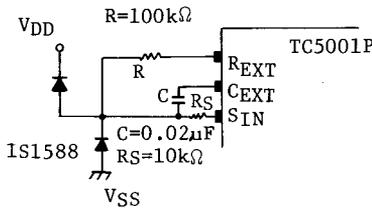
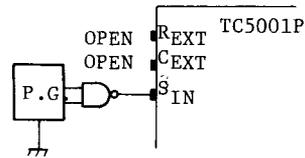

Fig. 1
Fig. 2
- (2) Arbitrary digit can be made real time output (completely static) by making SCAN signal DC.
- (3) The digit pulses in synchronism with SCAN signal for dynamic display appear at the digit output terminals (T1, T2, T3 and T4). The digit output terminals (T1, T2, T3 and T4) are used for the digit selection circuit and for arbitrary digit zero suppress.
- (4) The digit pulse is activated by the falling edge of SCAN INPUT signal.
- (5) SCAN signal is supplied from the internal oscillator as shown in Fig. 1 or from the external one as shown in Fig. 2.